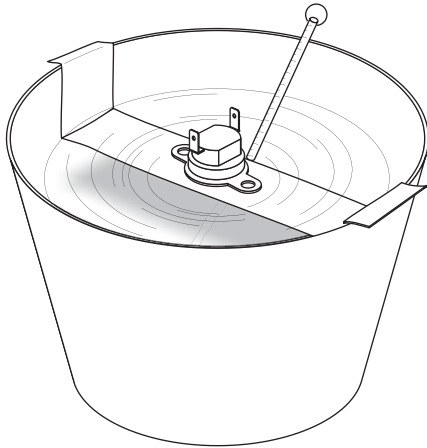

Figure 34. Testing the Oil Temperature Switch
7. Immerse the sensing tip of the switch in oil as shown in Figure 34, along with a suitable thermometer.